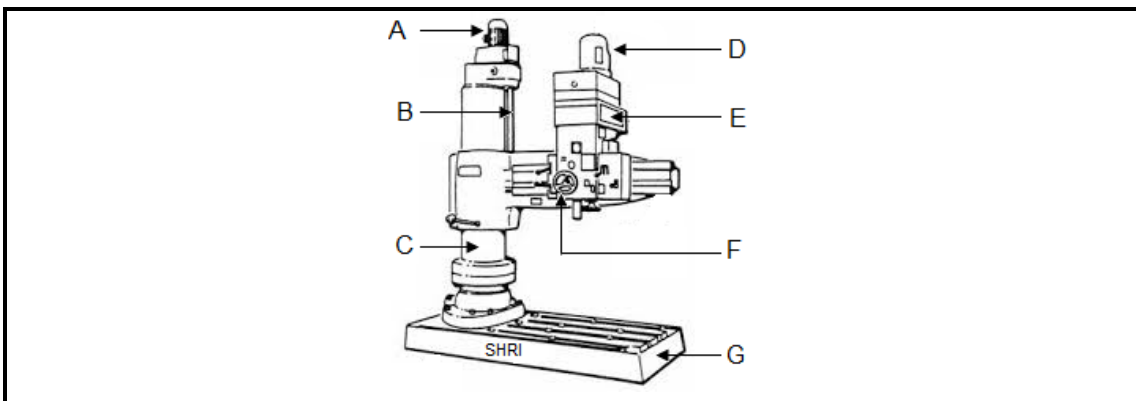

FIGURE 2
2.1 FIGURE 2 below shows a radial arm drilling machine. Name the labelled parts by writing only the name next to the letter (A–G) in your ANSWER BOOK. (7)